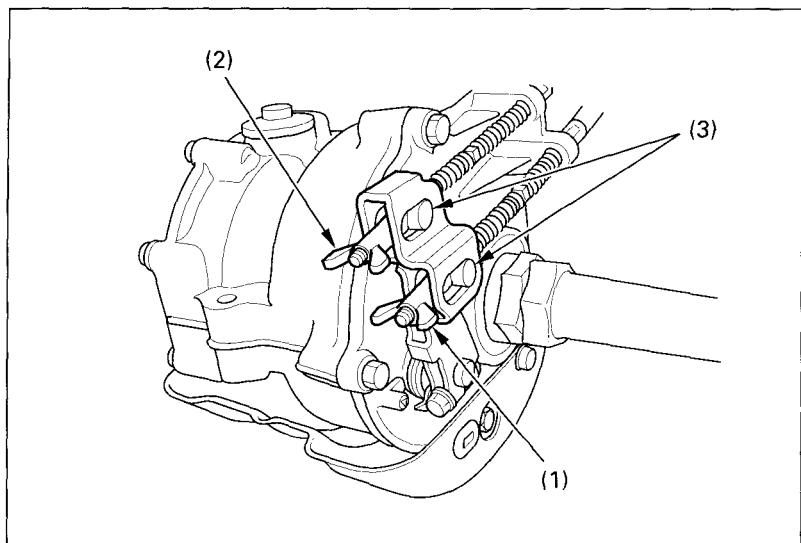

Fig. 4-23
(1) Rear brake pedal
To adjust the free play, turn the brake pedal adjusting nut (1), (Fig. 4-23), located on the brake operating rod at the rear of the frame. Make sure the cut-out on the adjusting nut is properly seated on the brake arm pin (3).
To adjust the free play, turn the brake lever adjusting nut (2), (Fig. 4-23), located on the brake operating rod at the rear of the frame. Make sure the cut-out on the adjusting nut is properly seated on the brake arm pin (3).